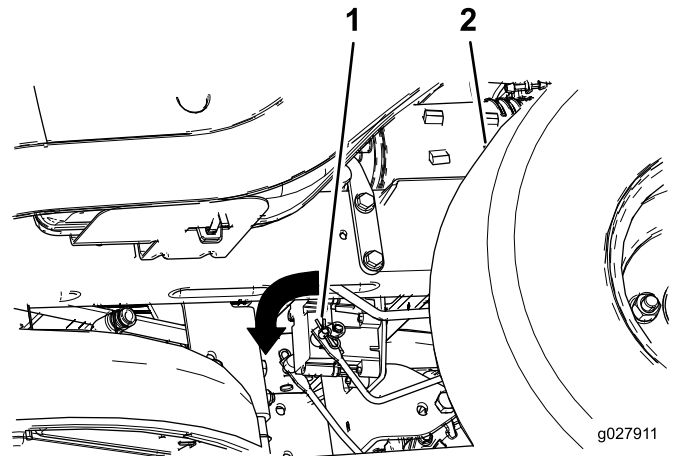

Figure 50
2. Locate the shaft on the electric brake where the brake-link arms are connected (Figure 50).